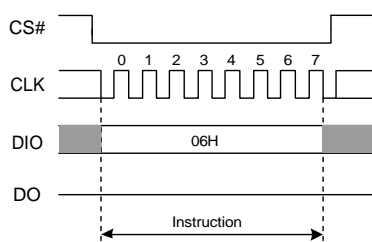

Figure 7.1 Write Enable Instruction Sequence Diagram
Instructions vary in length from a single byte to several bytes and may be followed by address bytes, data bytes, dummy bytes (don't care), and in some cases, a combination. Instructions are completed with the rising edge of edge CS#. Clock relative timing diagrams for each instruction are included in figures 7.1 through 7.5. All read instructions can be completed after any clocked bit. However, all instructions that Write, Program or Erase must complete on a byte boundary (CS driven high after a full 8-bits have been clocked) otherwise the instruction will be terminated. This feature further protects the device from inadvertent writes. Additionally, while the memory is being programmed or erased, or when the Status Register is being written, all instructions except for Read Status Register will be ignored until the program or erase cycle has completed.
- (1) Please contact sales for more information
The Write Enable instruction (Figure 7.1) sets the Write Enable Latch (WEL) bit in the Status Register to a 1. The WEL bit must be set prior to every Page Program, Sector Erase, Block Erase, Chip Erase and Write Status Register instruction. The Write Enable instruction is entered by driving CS# low, shifting the instruction code “06h” into the Data Input (DI) pin on the rising edge of CLK, and then driving CS# high.